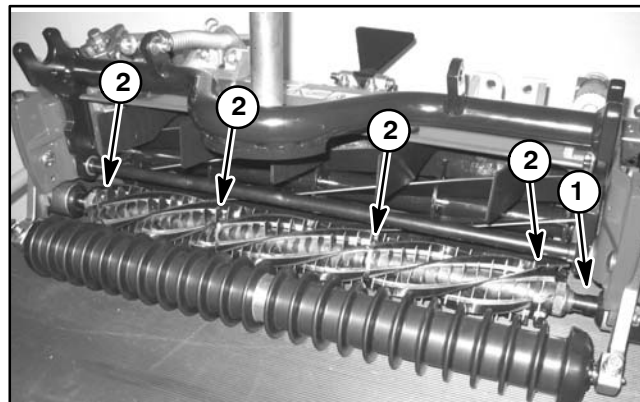

Figure 14
4. If groomer reel is equipped with broomer kit (Fig. 14), remove straps and broomer brushes from reel.
5. If groomer reel is equipped with broomer kit (Fig. 14), position broomer brushes to reel blades and secure with straps. Straps should be positioned between blades 1–2, 14–15, 28–29 and 41–42. Pull straps tight and cut off strap extension approximately 1/4" (6 mm) beyond retainer.